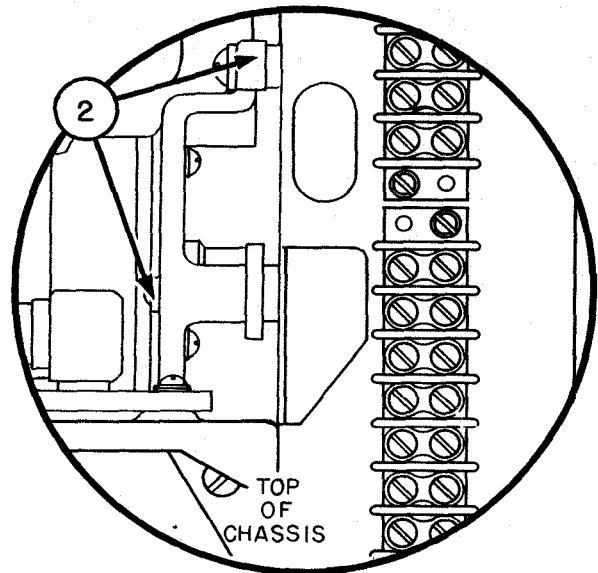

Figure 7-34. Steps in Dismounting Selector Motor
Step 2. Remove the three screws in the casting holding the motor and gear assembly to the selector mechanism. Two of the screws (Figure 7-34, 2) are accessible from the top of the chassis, the other from the bottom.